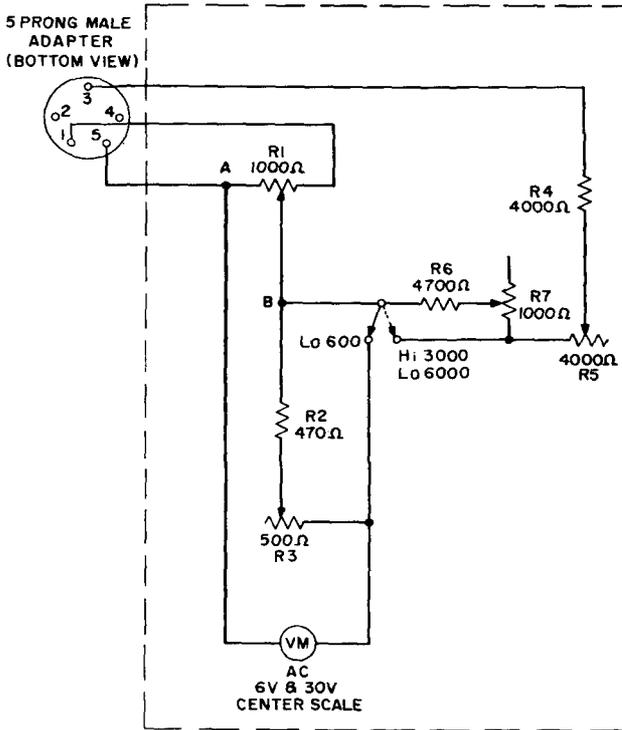

Fig. 2 — Micromhos Meter Calibrator, Schematic
2.06 Fig. 2 is a schematic circuit of the calibrator. Two of the leads from the plug are bridged across the 1000-ohm potentiometer
**4.02 To check the ac voltmeter in both the 30-volt (HI 3000) and 6-volt (LO 600) switch positions,** proceed as follows: Remove the four panel-mounting screws and attach leads from the VTVM at points A and B as shown in Fig. 2.